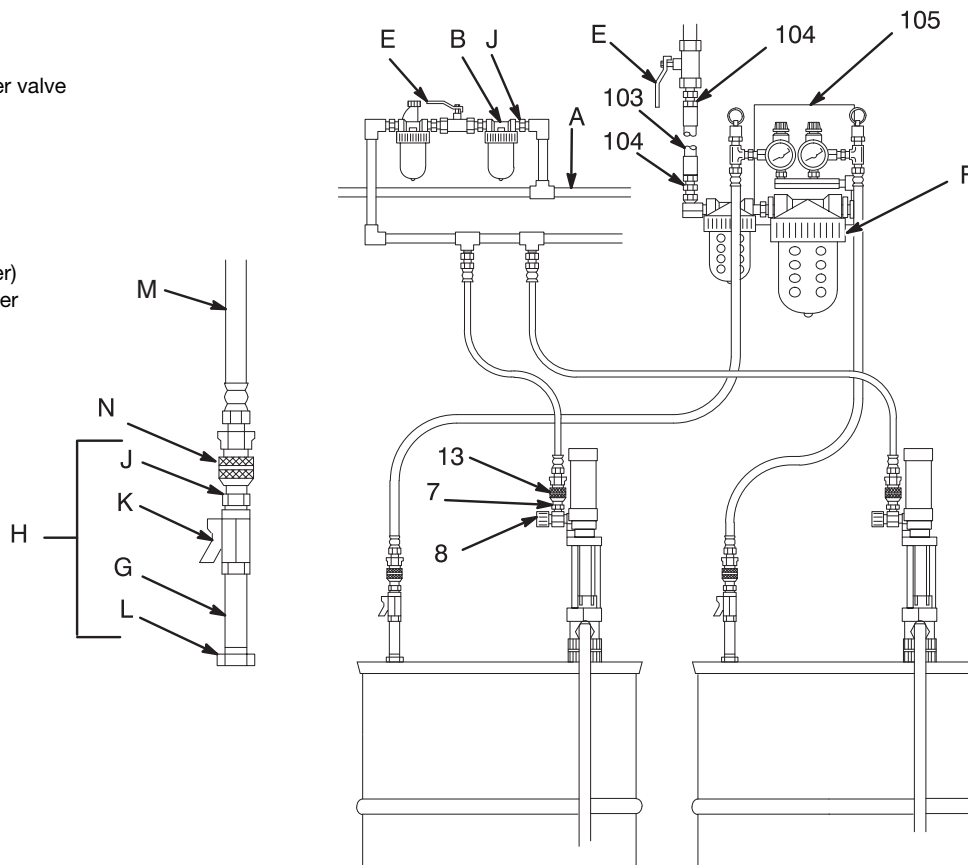

FIG. 3
5. Connect an air supply hose to the 1/4 npt air line coupler (13). Air supply hoses (103) are supplied in Kit 217381. See Fig 3, page 6.
2. Mount the Air Dryer (105) in any suitable location. Refer to manual 307548 for the mounting hole diagram. See Fig 3.
3. Unscrew the air dryer ring (F) to remove the bowl. See Fig 3. Remove the filter and fill the bowl with the desiccant, provided. Reassemble.
5. Connect the dry air hoses (M) to the identically labeled drum fittings using the special pin fitting (J) and coupler (N). See Fig 3.
1. Disconnect the hose coupler (N) from the Air Dryer drum fittings (H). See Fig 3.
2. Leave the ball valve (K) open for a few minutes to release the air pressure in the drum, then close the valves.